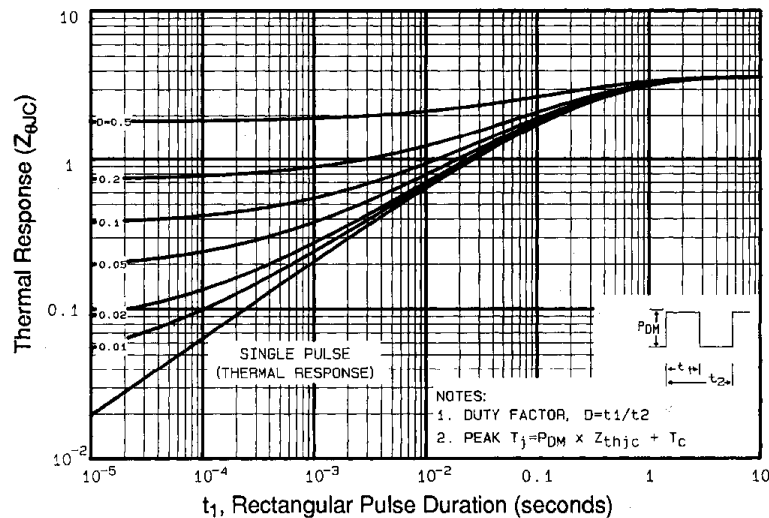

Fig 11. Maximum Effective Transient Thermal Impedance, Junction-to-Case
① Repetitive rating; pulse width limited by max. junction temperature (See Figure 11)
③ $I_{SD} \leq 3.6A$, $di/dt \leq 60A/\mu s$, $V_{DD} \leq V_{(BR)DSS}$, $T_J \leq 150^\circ\text{C}$
⑤ $t=60s$, $f=60\text{Hz}$